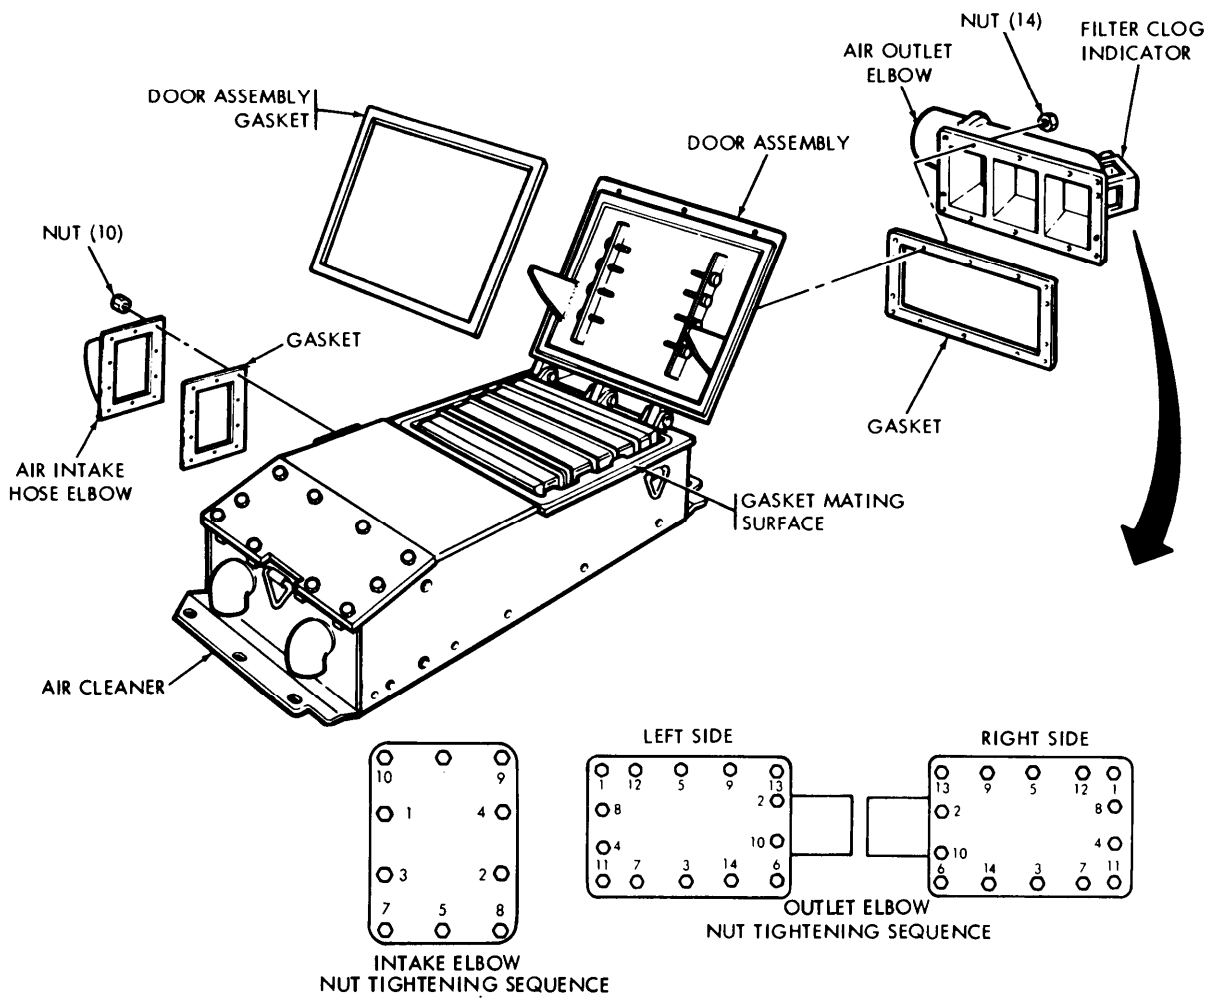
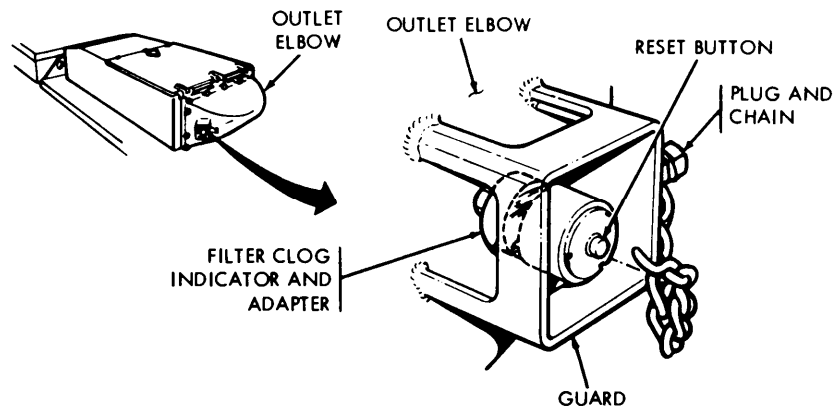
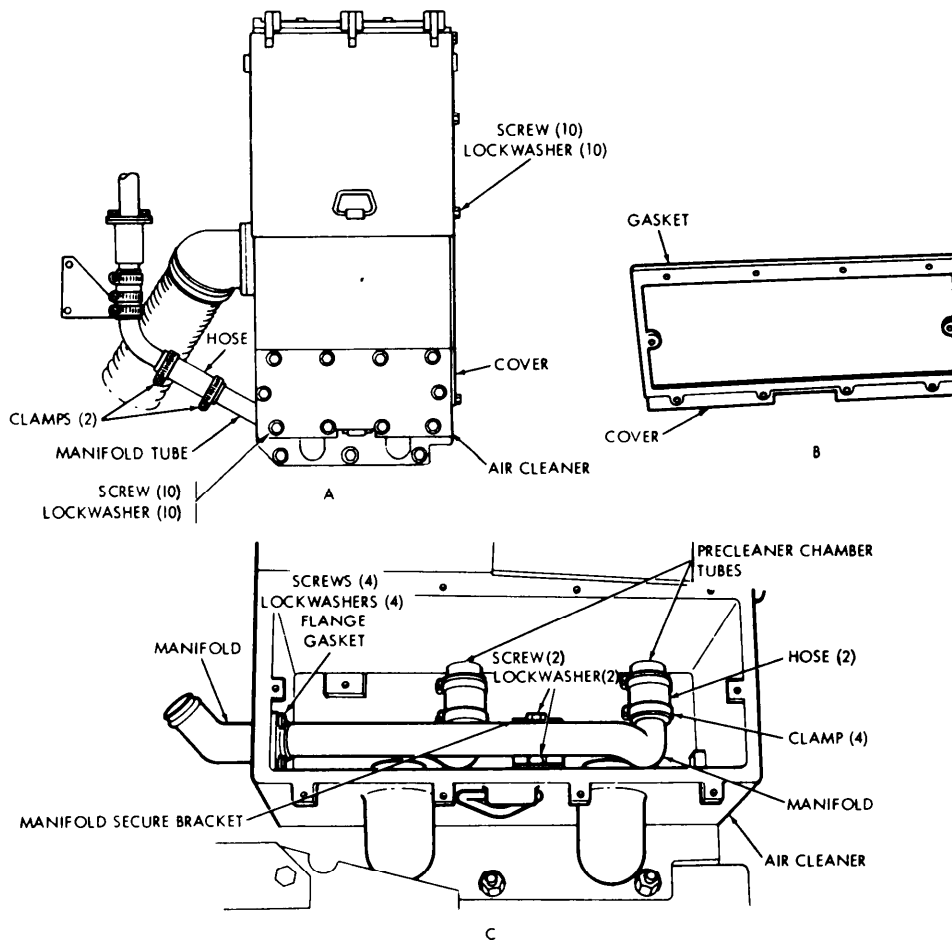

Figure 6-9. Air cleaner repair.
Figure 6-10. Filter clog indicator replacement.
Figure 6-11. Vehicle exhaust dust ejector system (VEDES) air cleaner manifold replacement.
- a. *Door Assembly Gasket Replacement (Fig. 6-9).*
- (1) Completely remove old gasket and adhesive from gasket recess by scraping or other mechanical means.
- (2) Apply adhesive (item 1, appendix C) to bottom of gasket recess in door.
- (3) Install new gasket on door with flat side of rubber gasket toward adhesive.
- (4) Close door assembly and secure with three screws.
- b. *Air outlet elbow replacement (Fig. 6-9).*
- (1) Remove air cleaner (para. g(1) above).
- (2) Remove 14 nuts securing air outlet elbow to air cleaner.
- (5) Remove air outlet elbow and gasket. Discard gasket. Cover air cleaner opening.
- (7) Install 14 nuts securing elbow to air cleaner. Tighten nuts to 35 lb. ft. (47 N.m) using sequence shown in figure 6-9. Repeat sequence tightening nuts to 50 lb. ft. (68 N.m).
- (8) Install air cleaner on vehicle (para. (g) (2) above).
- c. *Air Intake Elbow Replacement (Fig. 6-9).*
- (1) Remove air cleaner (para. 6-13a above).
- (2) Remove 10 self-locking nuts securing air intake hose elbow to air cleaner housing.
- (3) Remove air intake hose elbow and gasket. Discard gasket.
- (4) Remove protective cover from air cleaner air intake hose elbow opening if required.
- (5) Inspect and clean mating surfaces of air intake hose elbow and air cleaner.
- (6) Position new gasket and air intake hose elbow on air cleaner.
- (7) Install 10 self locking nuts securing air intake hose elbow to air cleaner in sequence shown on figure 6-9.
- d. *Filter Clog Indicator Replacement (Fig. 6-10).*
- (1) Remove damaged or defective filter clog indicator along with adapter when engine is not operating. If a new filter clog indicator is not installed right away, install plug attached to chain securely into opening in outlet elbow.
- (2) If plug has been installed into opening (1 above), remove it and install new adapter and filter clog indicator. Install plug in its original position on guard. Push reset button (early model).
- e. *Air Cleaner Manifold Replacement (Fig. 6-11).*
An air cleaner filter clog indicator has been added to each of the air cleaner outlet elbows to indicate when the filters require servicing (fig. 6-10). When the filters are clogged the window on the indicator shows red (early model) or indicates a reading of 25 or more (late model). Remove filters and clean per para. C. Reset indicator by pressing reset button. Refer to para. 6-14d for replacement of filter clog indicator.